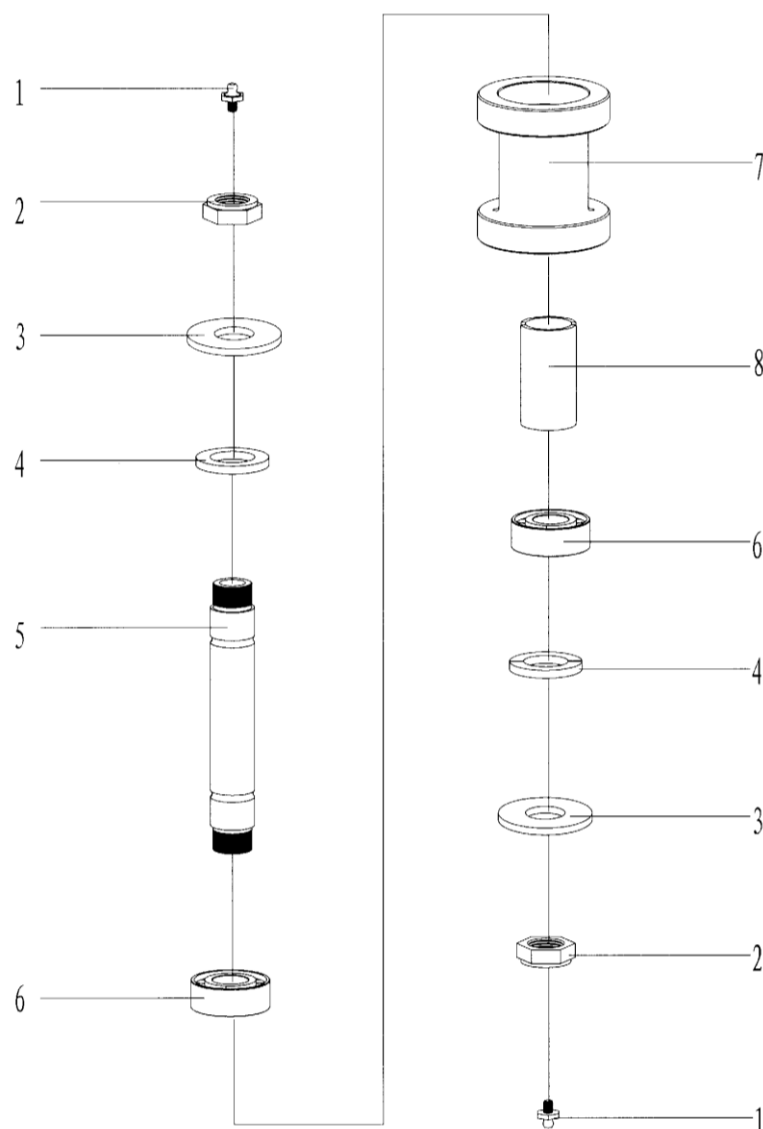

Fig. 21
7.1.14 Support roller(Fig.21, Table.16)